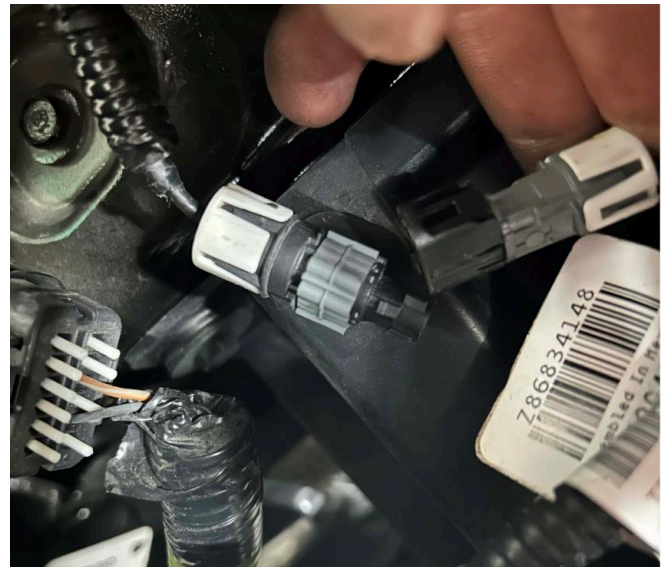

Figure 7
6. Remove the valances on either side of the grille by pulling outward to release the plastic clips. Figure 7.